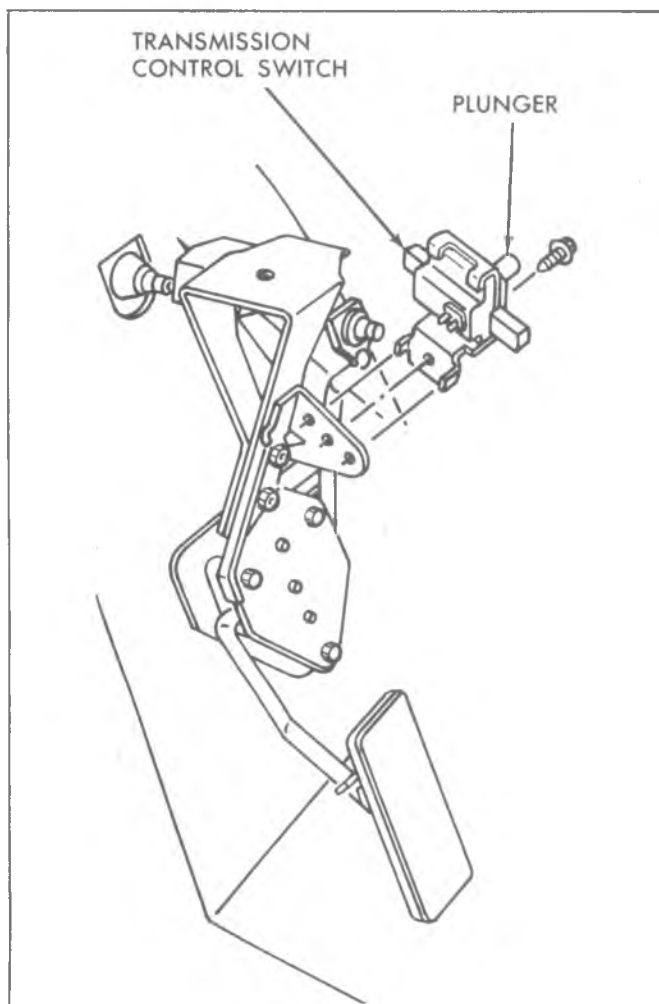

Fig. 3T—Detent Switch Adjustment
1. Install detent switch as shown in Figure 3T.